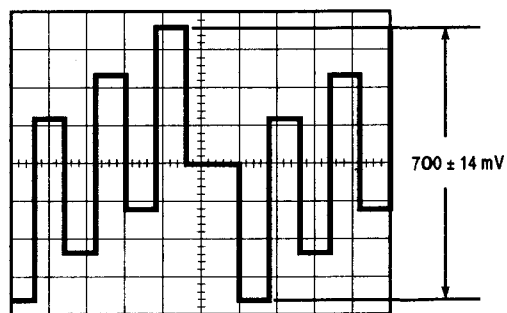

Fig. 5-1-15
- Adjust VR13 so that the Pb Level becomes  $700 \pm 14$  mV as shown in Fig. 5-1-15.